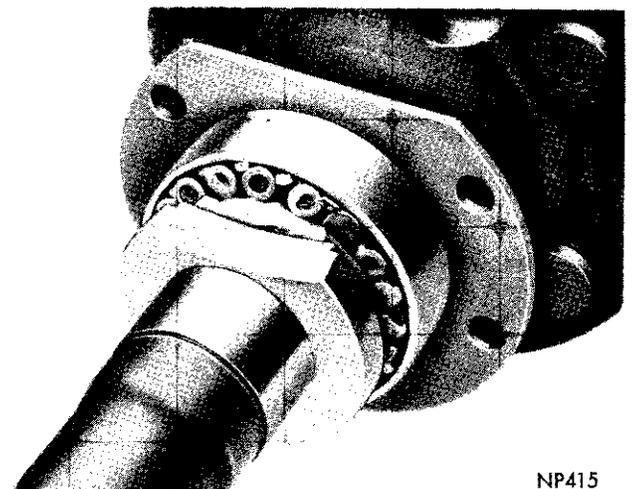

Fig. 14—Collar and Inner Race Ground Prior to Removal (Imperial)
(3) Grind axle shaft collar in one position to approximate thickness of protective sleeve SP-5041. At same time grind a portion of inner bearing race so bearing rollers can be removed (Fig. 14).
(4) Position axle shaft bearing retaining collar on a heavy vise or anvil and using a chisel, cut a groove into collar at position that you previously ground. Collar should split, which in turn will enlarge bore and permit collar to be driven off of axle shaft.